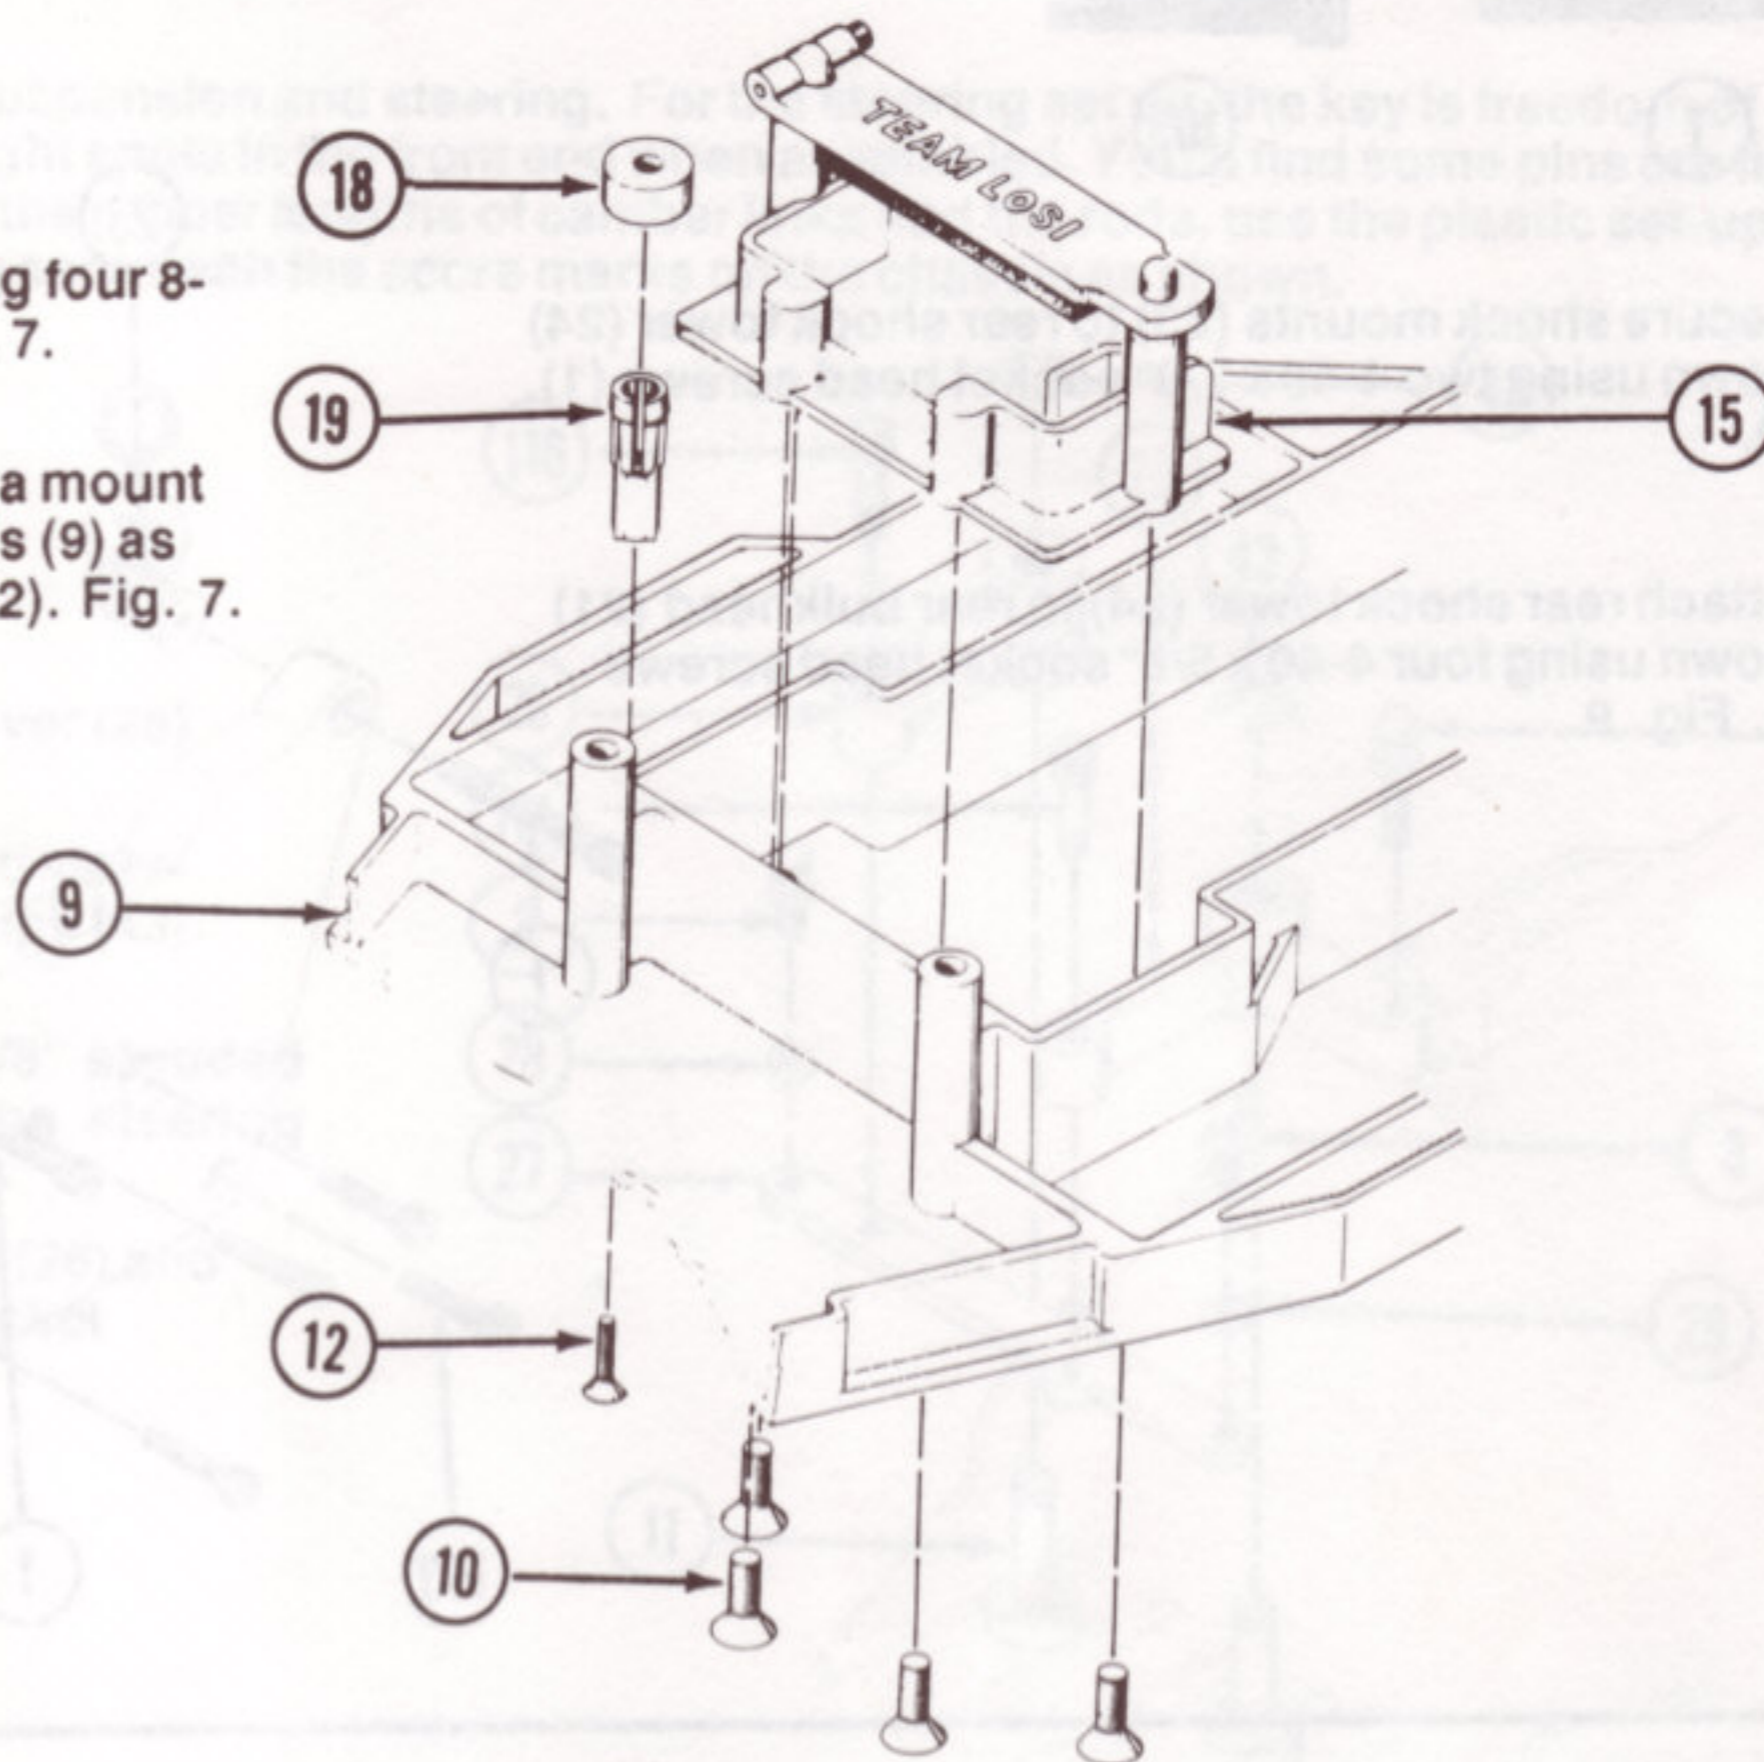

FIG. 7
11. Attach battery box (15) to chassis (9) using four 8-32 x 1/2" flathead aluminum screws (10). Fig. 7.
12. Affix antenna mount cap (18) onto antenna mount (19) and secure antenna mount (19) to chassis (9) as shown using one 4-40 x 3/8" flathead screw (12). Fig. 7.